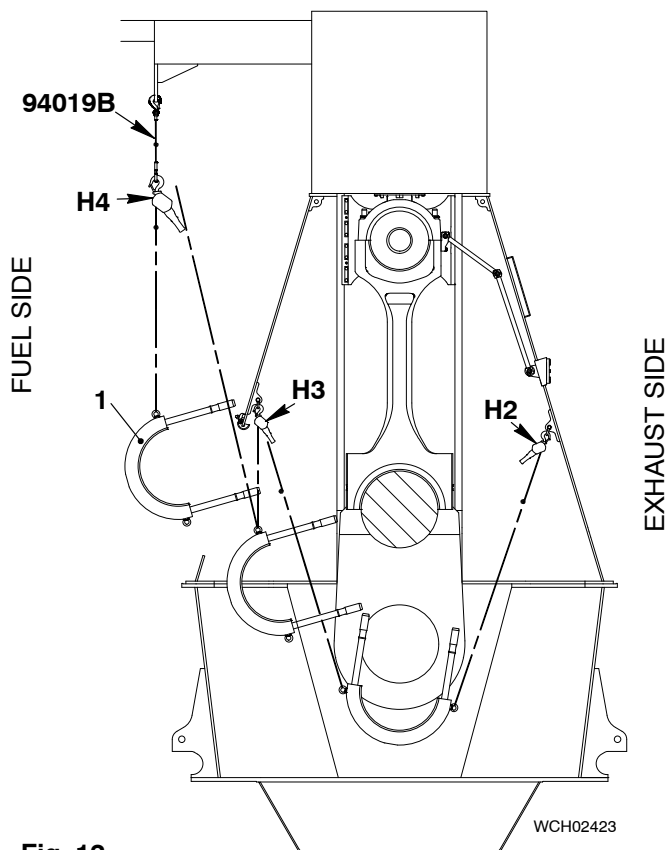

Fig. 12
- 1) Attach the chain (94019B, Fig. 12) to the gallery.
- 2) Attach the manual ratchets (H4) to the chain (94019B) and the eye bolt on the bearing cover (1).
- 3) Attach the manual ratchet (H3) to the eye bolt on the bearing cover (1).
- 4) Operate the manual ratchets (H3,H4) to move the bearing cover (1) into the crankcase.
- 5) Attach the manual ratchet (H2) to the column and the bearing cover (1).
- 7) Operate the manual ratchets (H2 H3) to lift the bearing cover (1) into position.